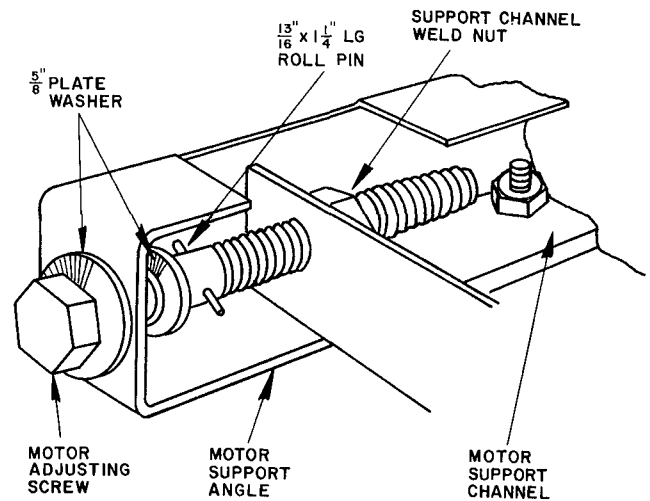

Fig. 6 – Assembled Fan Motor Adjusting Screw
4. Assemble and install motor adjusting screws as shown in Fig. 6. Drive roll pins into screws to prevent the screws from backing out during motor position adjustment.